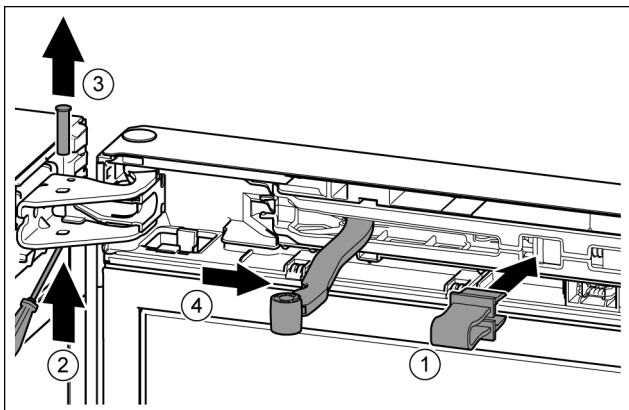

Fig. 8
- Engage the locking device in the opening. *Fig. 8 (1)*
- Unscrew the bolt with a screwdriver. *Fig. 8 (2)*
- Remove the bolt in an upward direction. *Fig. 8 (3)*
- Turn the hinge in the direction of the door. *Fig. 8 (4)*